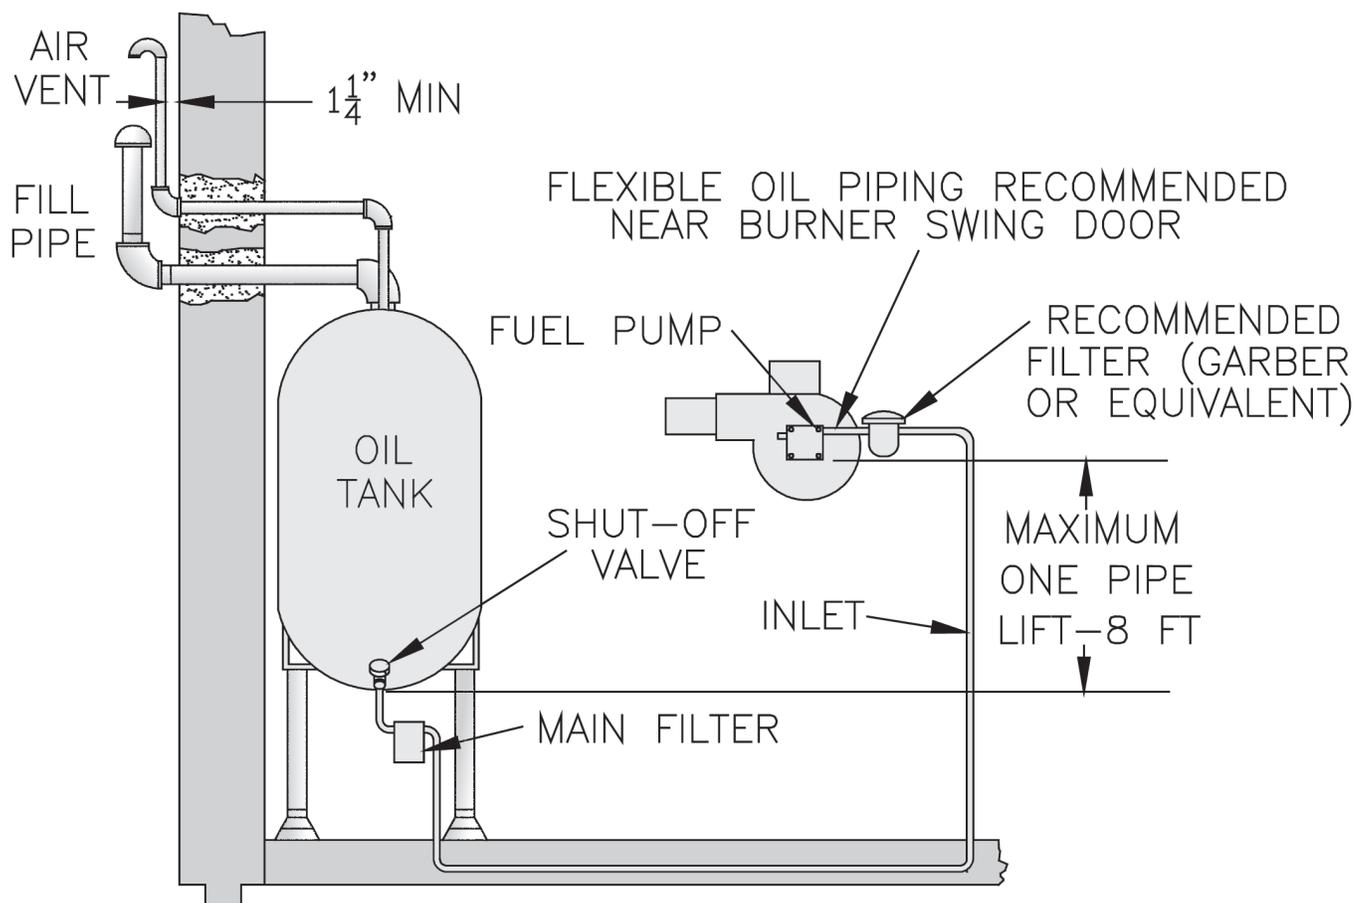

Figure 6-1: Single-Pipe Installation
2. The single-stage fuel unit may be installed single-pipe with gravity feed or lift. Maximum allowable lift is 8 feet. See Figure 6-1.